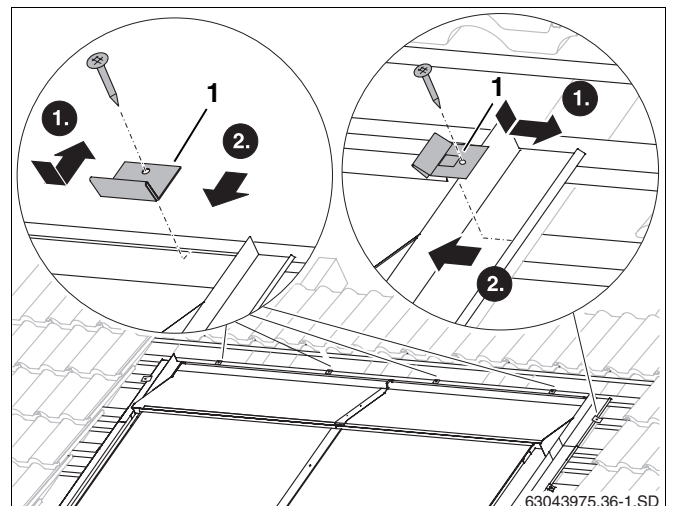

Fig. 60 Fastening upper facing panels with clips
- ▶ Insert clip (Fig. 60, **Item 1**) into the edge of the facing panel.